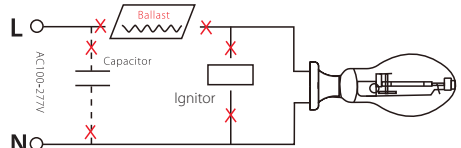

Fig.1
1. Turn off the power before installation. (Fig.1)